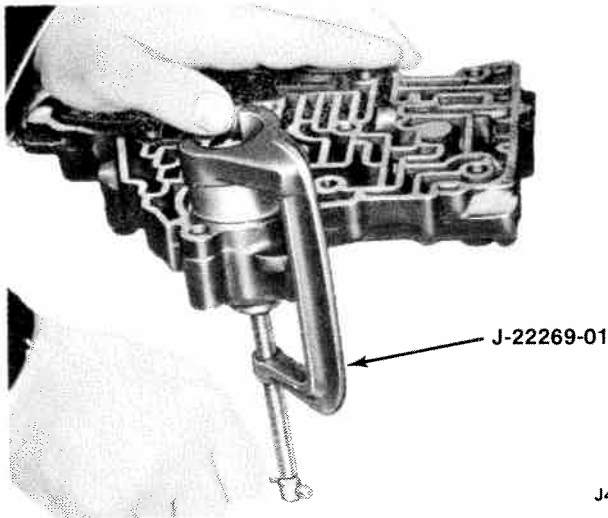

Fig. 7-50 Removing S-Type Retaining Ring
- (1) Position control valve assembly with cored face up and accumulator pocket nearest operator.
- (2) Remove manual valve from upper bore.
- (3) With Ring Remover and Installer Tool J-22269-01, remove retaining ring at accumulator piston (fig. 7-50).
J-22269-01, and secure piston with E-type retaining ring as shown in figure 7-50.